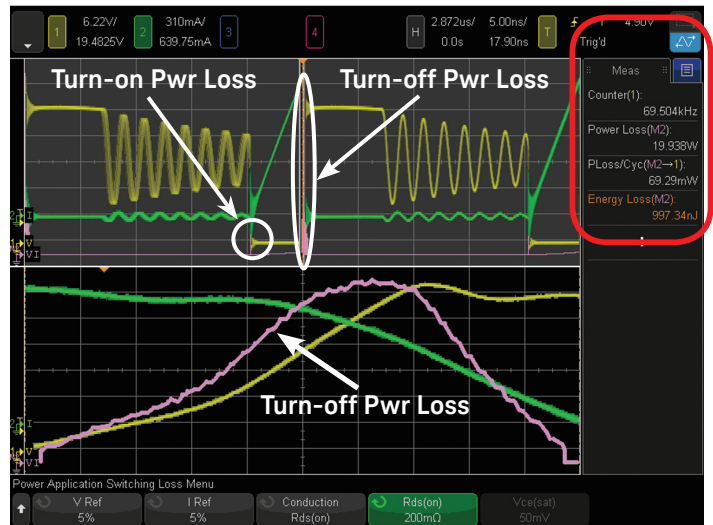

Figure 18: Windowing-in on the power spike at center-screen to measure the power and energy loss during just the transistor's turn-off phase
13. Adjust the horizontal delay/position setting (smaller horizontal knob) to center the power spike within the lower zoom display as shown in Figure 18.
Note that some switching power supplies will also exhibit losses during the transistor turn-on phase (when voltage goes low and current begins to flow). If this is the case, then you will observe two power spikes in the main/upper timebase display. When using Keysight's SMPS training kit as the DUT, power and energy losses during the turn-on phase are relatively insignificant as evidenced by the lower amplitude power spike in the main timebase display shown in Figure 18. But if you observe a significant second power waveform spike, then you should also window-in on the second spike that may occur during the turn-on phase to measure losses during this phase as well.
approximately 500 nJ during the conduction phase. Referring back to Figure 18 when we measured losses during the turn-off phase, we measured a power loss/cycle of approximately 65 mW and energy loss of approximately 930 nJ. Total losses for one switching cycle is the sum of the power loss/cycle and energy loss during the turn-off, turn-on (measured, but not shown) and the conduction phases which is summarized in the table below: